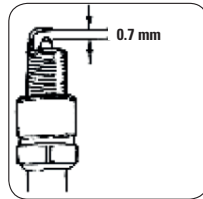

FIGURE 9.5
In order to assure the good working of the engine, the spark plug must be free of deposits and the electrode opening must be within the specified. Figure 9.5.
- E.** Measure the spark plug electrode opening with a gauge plate and if necessary adjust the opening. The spark plug electrode opening should be around 0.7mm. Figure 9.5.